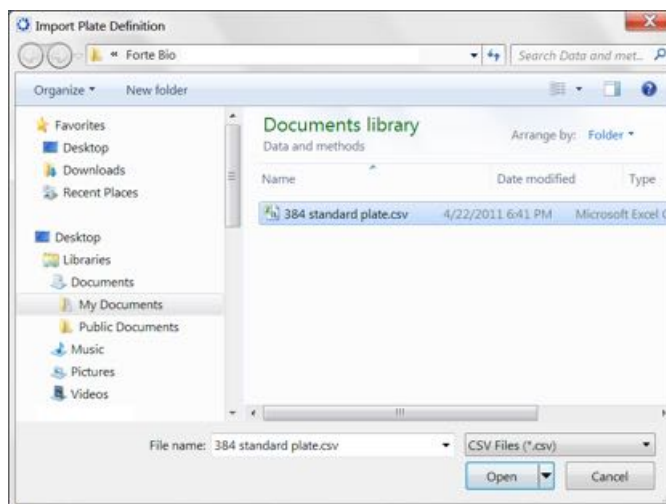

Figure 10-26: Import Plate Definition Window
2. In the **Import Plate Definition** window (see Figure 10-26), select the plate definition (.csv), and click **Open**.